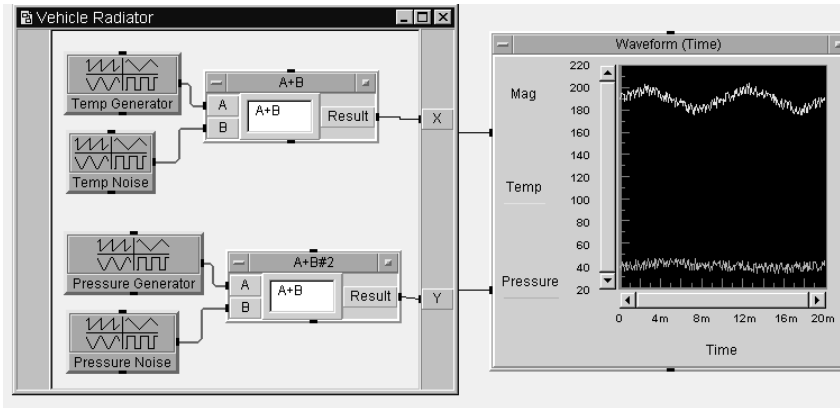

Figure 3.9. Vehicle Radiator with temp and pressure displayed
43. Run this modified program; observe the two traces on the scope; compare the two frequencies and amounts of noise. See Figure 3.9.